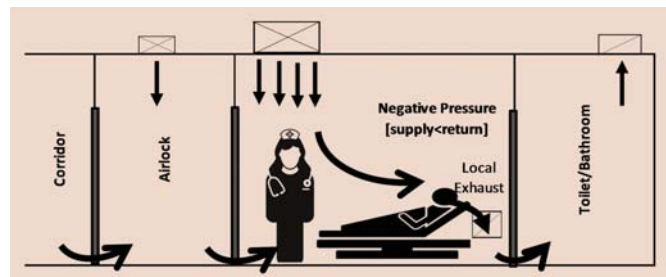

Figure 8: Air Pattern for a negative pressure A.I.I. Room
- In an Airborne Infectious Isolation (A.I.I.) room, the people in the outside corridor and the healthcare workers will need to be protected from the patient. The room is thus kept under negative pressure. The healthcare worker should be safe when attending to the patient and the latter's respiration should be directly exhausted. The air pattern shown in Figure 8 does just that. The clean air from the supply air duct comes first on the healthcare worker and thence to the patient and then exhausted from the nearby exhaust grille.